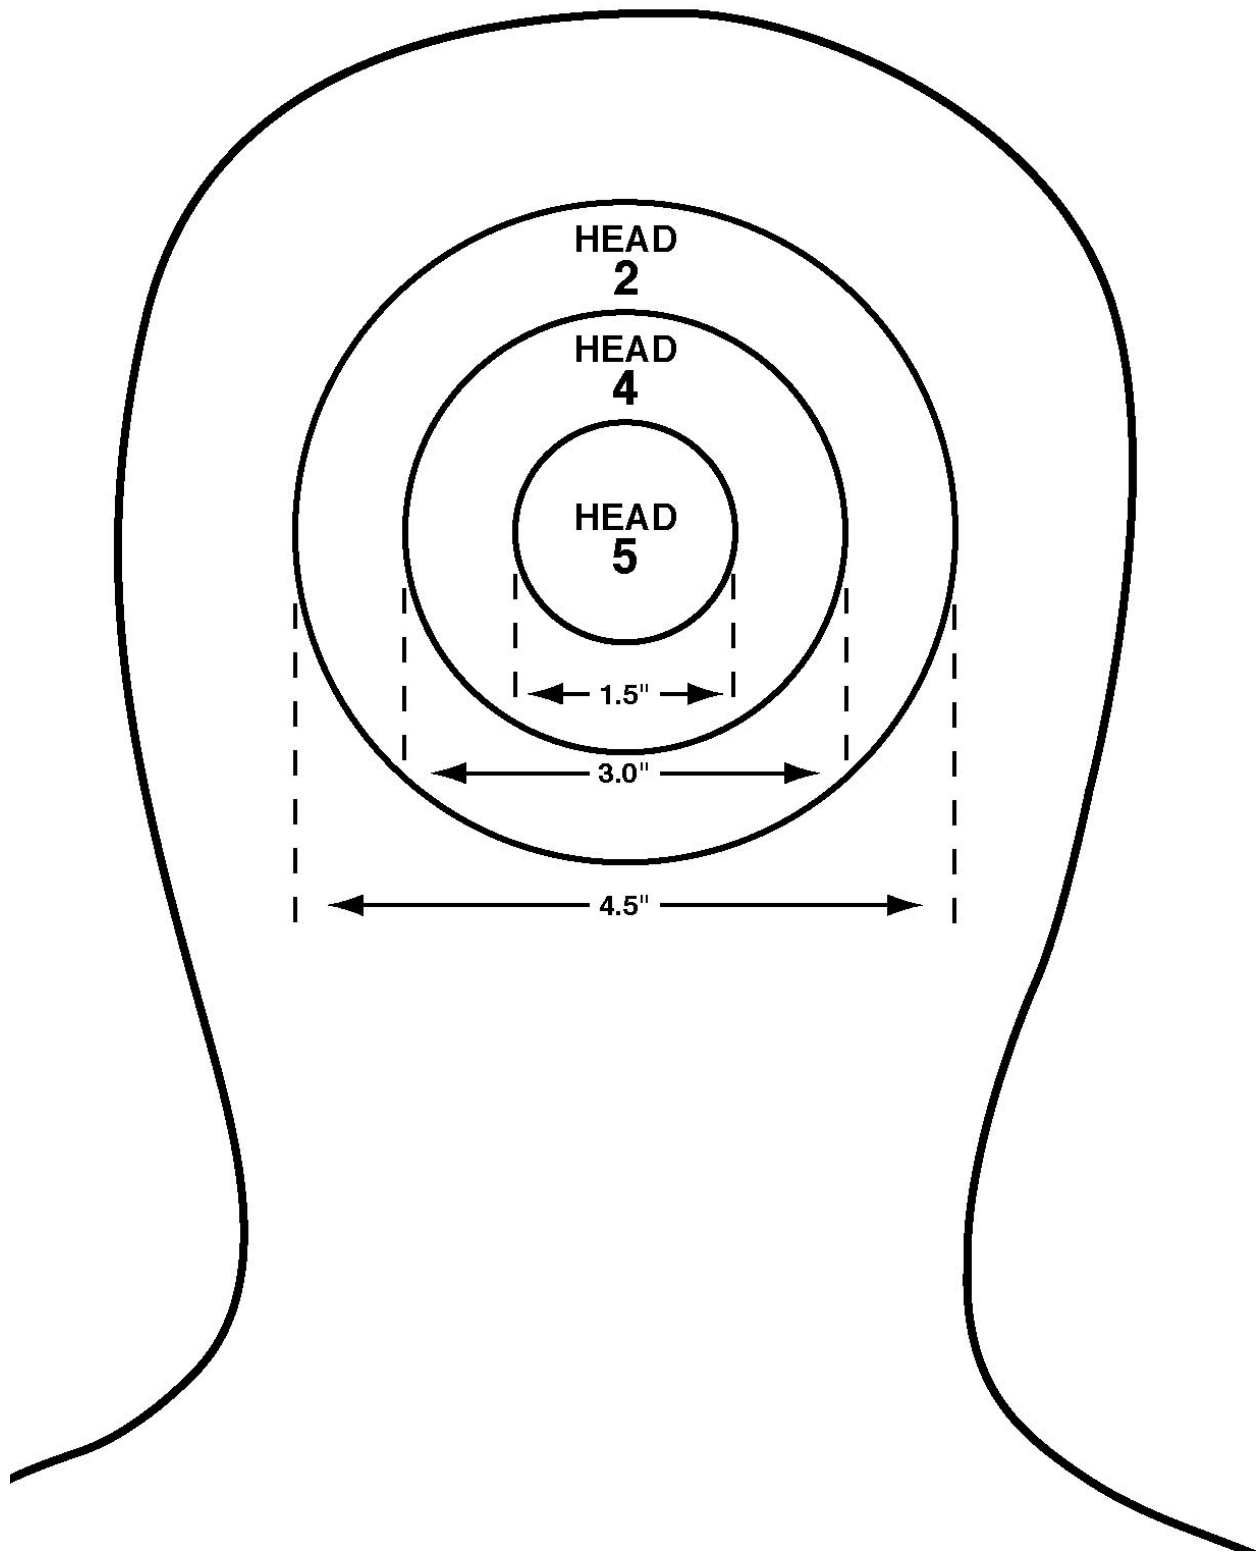

Figure 1. Head Scoring Template
1. HEAD SCORING TEMPLATE. The Head Scoring Template for the Precision Rifle Qualification Courses consists of three concentric rings placed within the existing circle scoring area in the head of the U.S. Department of Energy (DOE) Standard Target (see Figure 1).